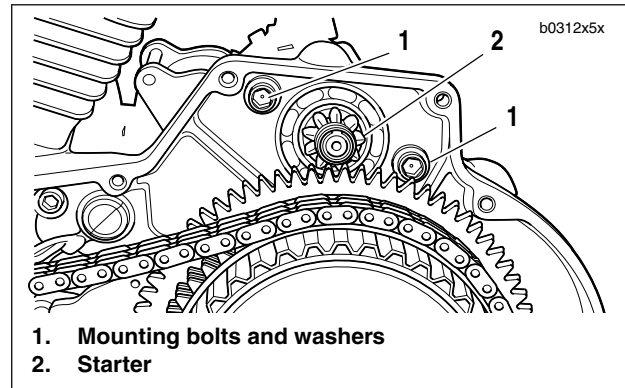

Figure 5-8. Starter Mounting
5. See Figure 5-8. Remove two starter mounting bolts and washers (1).